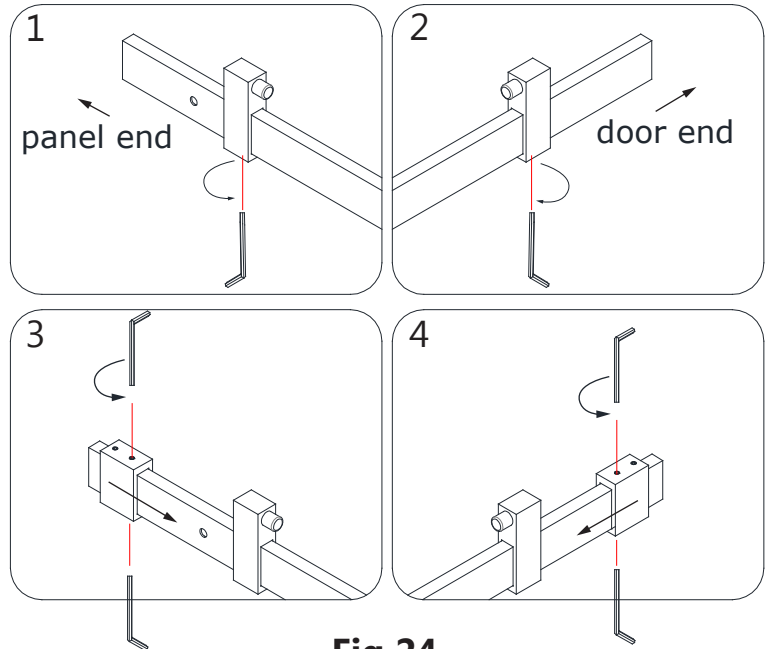

Fig 24
24. Attach the **Stoppers (#05)** and **Guide Rail Brackets (#06)** to both ends of the **Guide Rail (#04)**. Be sure slide the panel side stopper beyond the first glass holder hole. **(Fig 24)**